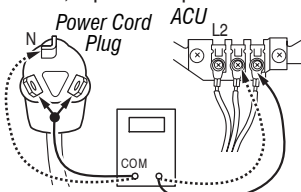

Figure 3b - Plug-to-terminal connections for electric dryer.
7. Check for continuity between the neutral (N) terminal of the plug and J7-4 (white wire) on the ACU.
8. With an Ohmmeter, check which terminal of the plug is connected to the right-most contact on the terminal block and make a note of it. This will be L2 (Red wire) in the wiring diagram. See figure 3b.